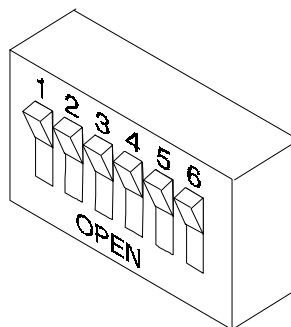

Figure D-45. T/R Switch A Setting
This section applies to the IVP4 (ACY6) and IVP6 (AYC5) T/R circuit cards. The switches one (1) through six (6) on Switch Bank A correspond to channels 0–5, respectively, on the T/R card (see Figure D-45). In general, all switches on Switch Bank A should be left in the factory default “OPEN” position.